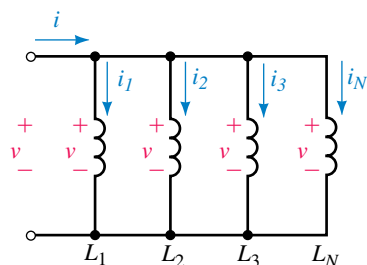

FIGURE 13-39
30. For inductors in parallel (Figure 13-39), the same voltage appears across each. Thus, $v = L_1 di_1/dt$, $v = L_2 di_2/dt$, etc. Apply KCL and show that $1/L_T = 1/L_1 + 1/L_2 + \dots + 1/L_N$.